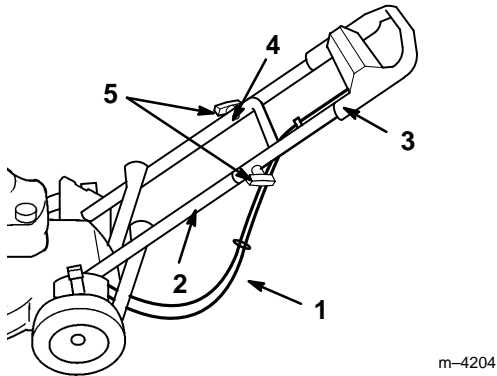

Figure 3
4. Slide the upper handle section ends over the lower handle so that the sections nest together (Fig. 3).
5. Make sure that the cables are routed below and behind the lower handle as illustrated in Figure 3.
6. Secure the upper handle to the lower handle using two contoured handle bolts and two knobs (Fig. 3).